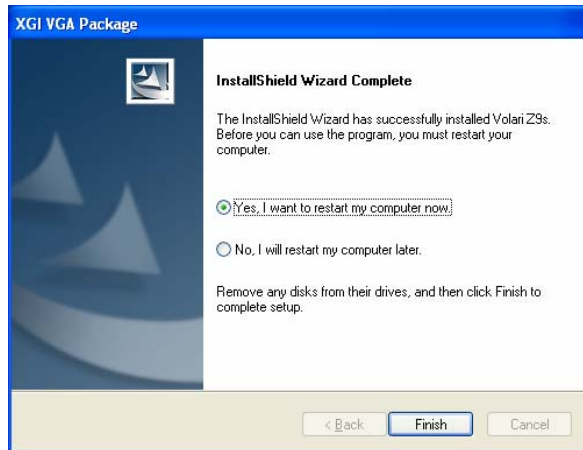

Figure 7-12: VGA Driver Installation Complete Screen
Step 7: When the driver installation is complete, the window in Figure 7-12 appears.